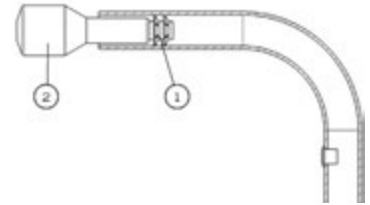

Fig. 30
- Insert a 1/4"-20 grip nut (1) (Fig. 30) with the grip nut insertion tool (2) inside the handle (40 mm).